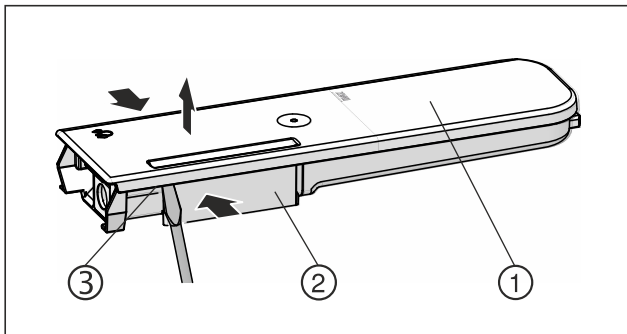

Fig. 160
- ▶ Squeeze the water tank Fig. 160 (2) and carefully lever the cover Fig. 160 (1) over the latches Fig. 160 (3) pull it up.
- ▶ Slightly move the cover Fig. 160 (1) back and forth and remove it from the top.